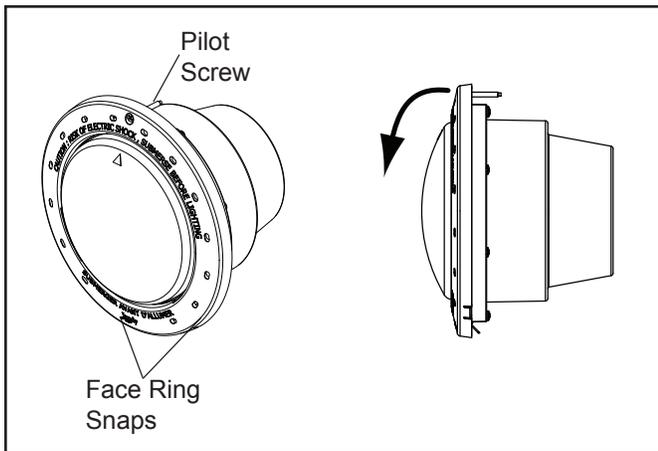

Figure 3. Stainless Steel Face Ring Removal
- a. To remove a stainless steel face ring, first remove the pilot screw and o-ring from the face ring and top clamp. Pull the top edge of face ring until face ring separates from top clamp. See Figure 3.